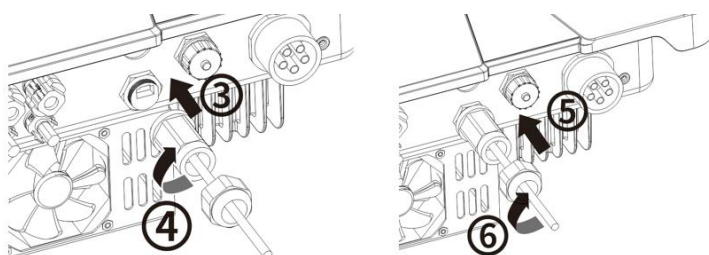

Fig. 29: Connect the network cable
- 2 Unscrew the communication port cover cap in the following arrow sequence (see fig. 29, note sequence and directions of arrows) and insert the network cable into the RS485 communication client attached.